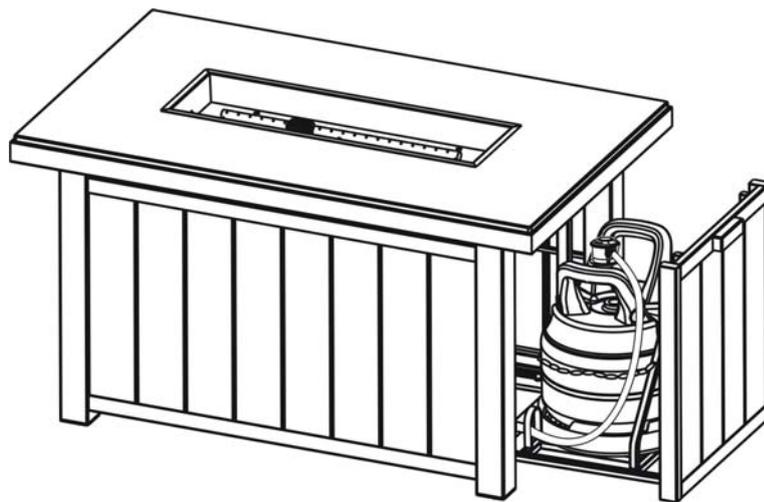

Figure 9
8. Slide the tank drawer out, place the LP tank (not provided) in the drawer and secure it with the chain as shown in Figure 9. With the BLACK lever in the “down/off” position as shown in Figure 10, firmly push the regulator onto the tank valve. To open the valve, lift the BLACK lever and turn the handle 90° clockwise to the “ON” position. See Figure 11. Apply a solution of soapy water to the tank-regulator connection and to the valve-hose connection to check for leaks. If soap bubbles continue to form, the connection has a leak. If a leak is found, close the tank valve and tighten all connections. **NEVER USE A FLAME TO CHECK FOR LEAKS.** In case of gas leakage; for instance, in the event of gas leakage, the appliance shall not be used or if alight, the gas supply shall be shut off and the appliance shall be investigated and rectified before it is used again. To remove the regulator, turn the Black Lever counterclockwise and press straight in. See Figure 12.